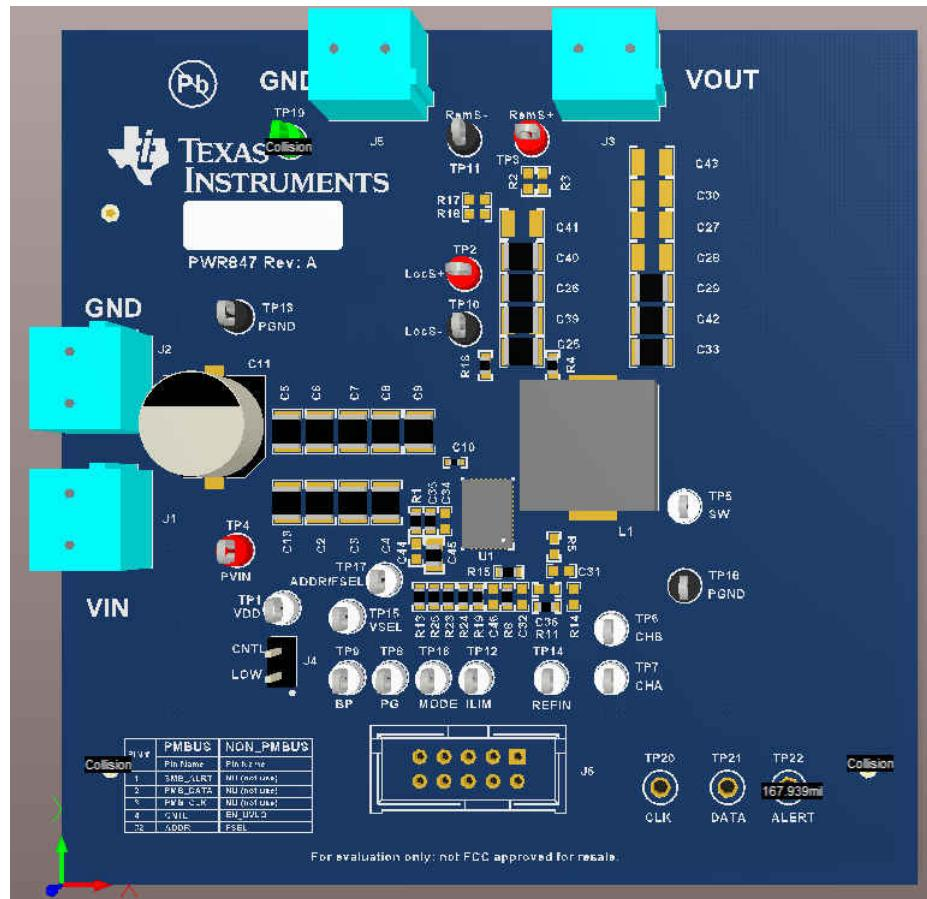

Figure 6-1. PWR-847EVM Overview
Multimeters: It is recommended to use two separate multimeters Figure 6-1. One meter is used to measure V_{IN} and one to measure V_{OUT} .
Output Load: A variable electronic load is recommended for testing Figure 6-1. It must be capable of 25 A at voltages as low as 0.6 V.
1. Connect VOUT to J3 and VOUT_GND to J5 Figure 6-1.
4. Connect VIN to J1 and VIN_GND to J2 Figure 6-1.